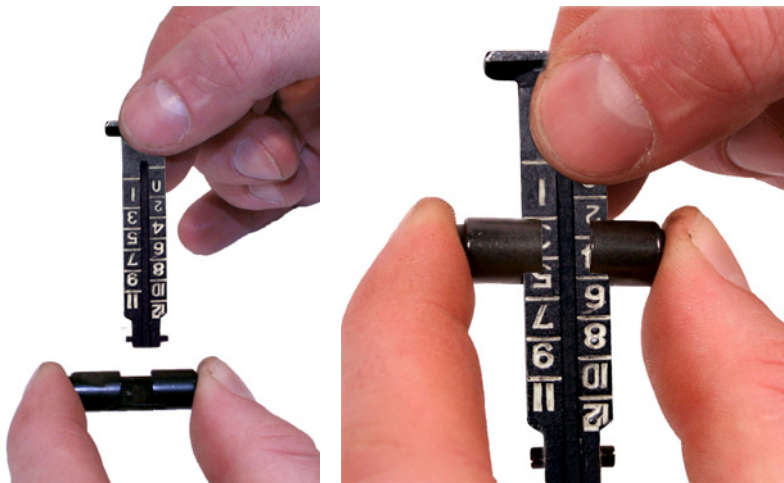

Figure 25. Depressing and Installing the Elevation Slide Assembly onto the Sight Leaf.
8. Depress the elevation slide assembly and install it onto the sight leaf. Ensure the teeth on the elevation slide assembly mate with the teeth on the bottom of the sight leaf. Refer to Figure 25.